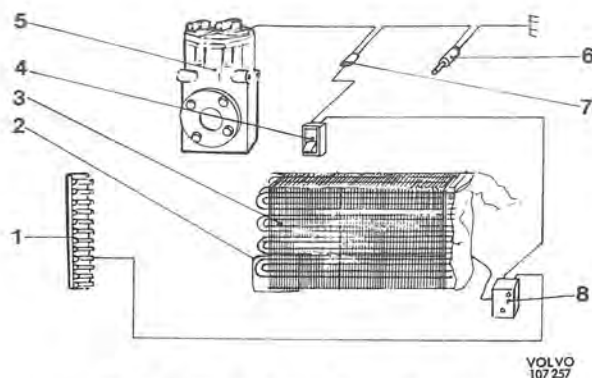

Fig. 8-38. Wiring diagram for air conditioning
refrigerant between the various components. They are provided with tapered pipes and unions at the ends. The unit is started by means of the switch (4, Fig. 8-38) on the instrument panel inside the vehicle. When the current is switched on, the electromagnetic clutch and the compressor (5) start operating. A cut-out thermostat (8) is fitted at the evaporator in order to prevent it from being iced.
Belonging to the unit control system is the cut-out thermostat, the function of which is to prevent icing in the evaporator. The thermostat is placed at the evaporator and is provided with a capillary tube (2, Fig. 8-38) which is inserted in between the evaporator fins (3). When the vapour temperature has dropped to $+3^{\circ}\text{C}$ (37°F), the capillary tube actuates the thermostat (8) so that current to the compressor clutch is broken off and the compressor stops. When the temperature of the evaporator again rises, this cuts in the current and the compressor starts working again.